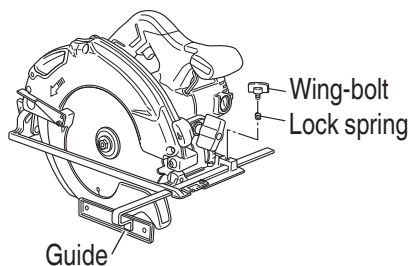

Fig. 7
4. **Regulating the guide (Fig. 7)**